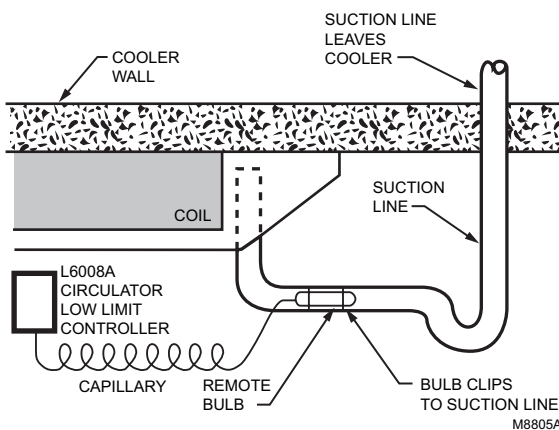

Fig. 17. Attaching remote bulb to horizontal suction line.
4. Attach the sensing bulb to the suction line with clips or straps. (See Fig. 17).